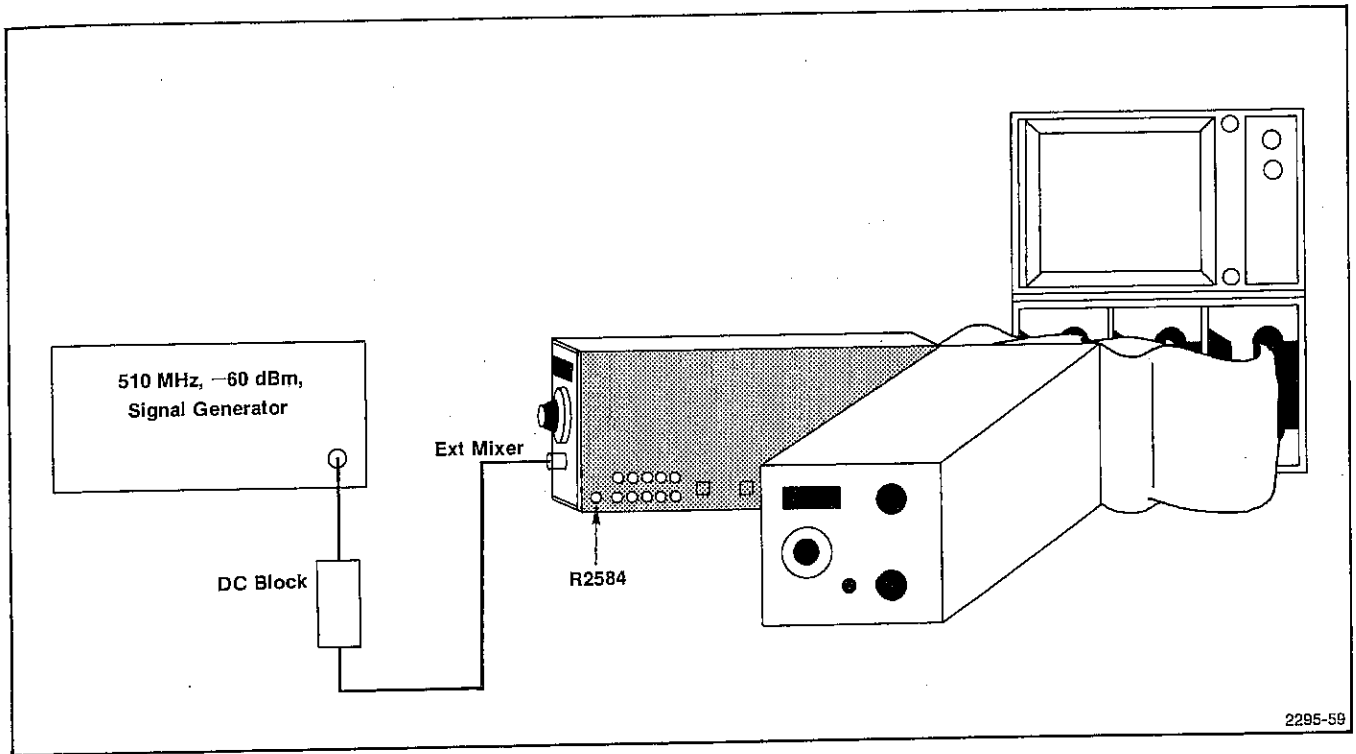

Fig. 4-51. Test Setup for Calibrating Gain of the Waveguide Bands.
b. Apply a calibrated -60 dBm, 510 MHz signal from a UHF signal generator, through a dc blocking capacitor (e.g., Tektronix Part No. 015-0021-00) to the EXT MIXER input of the 7L18 (see Fig. 4-51).